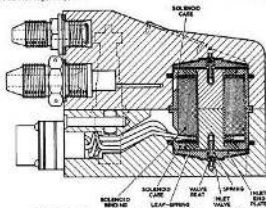

Fig. 2. Sectional view of duo-electric valve (AC1130)
3. Each solenoid valve assembly (fig. 2) consists of an inlet end plate, to which is fitted a spring-loaded, normally-closed inlet valve; this engages with a valve seat in the casing which communicates with the air passage system. On the other side of the inlet end plate is a leaf-spring resting on the end of the solenoid case. The valve action is dependent upon the alternate opening and spring closing of the two pairs of solenoid-operated valves, in conjunction with the mechanical opening and closing of the pneumatic valves, following the operation of the pistons which are linked to give alternating reciprocating action to the valves.